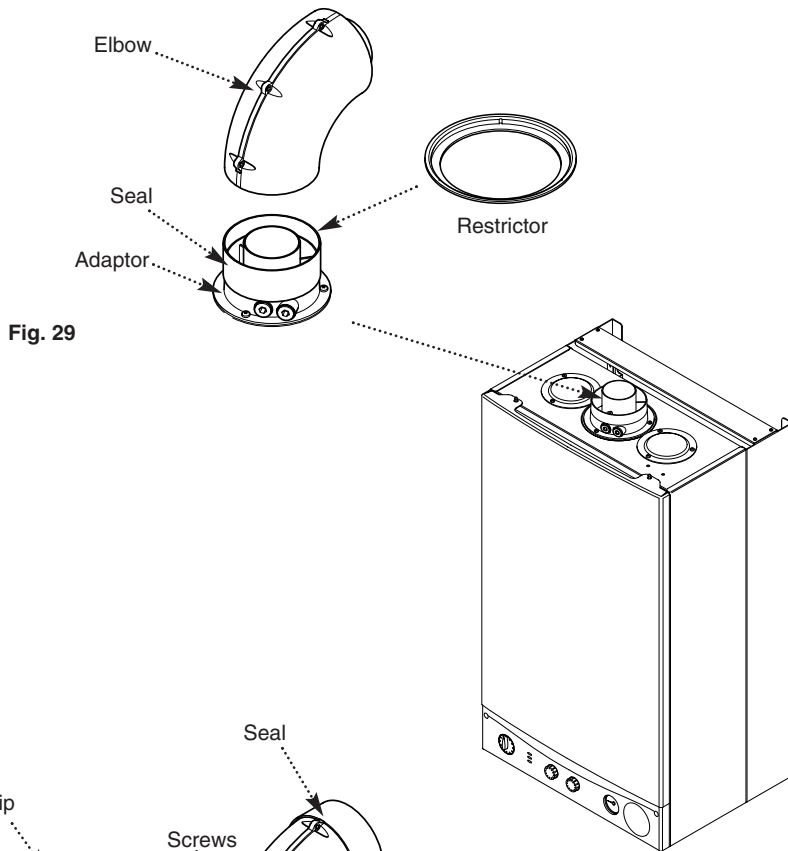

Fig. 29
IMPORTANT: If the flue length is greater than 1.5m the restrictor **MUST** be removed from the adaptor (Fig. 29).
8. Take one of the rubber seals and position it on the boiler flue adaptor. Engage the flue elbow on the adaptor and pull the sleeve up so that it equally covers the joint (Fig. 29).